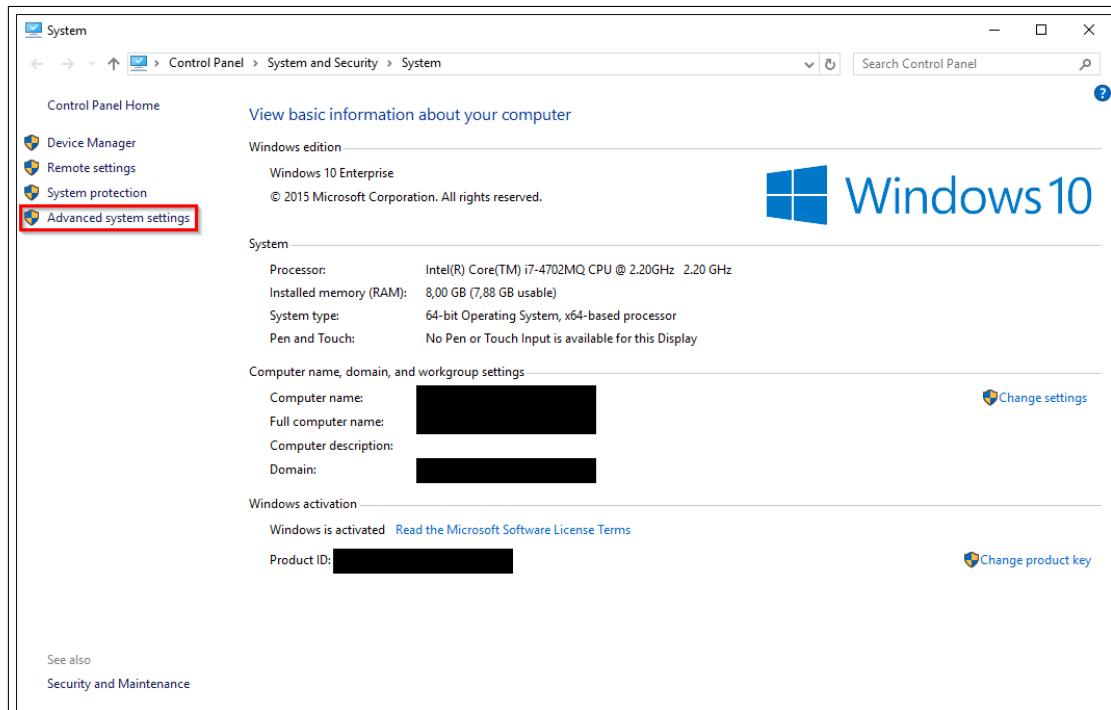

Figure 9.5: System Properties
- Go to **System Properties** and select **Advanced system settings** (see Figure 9.5)